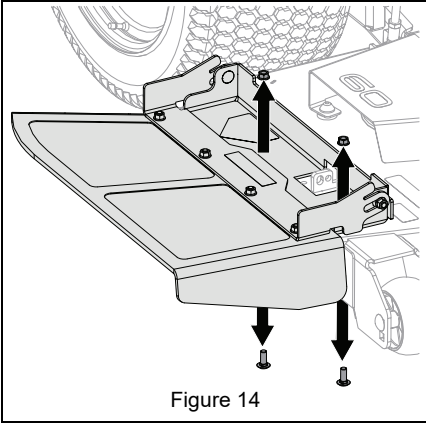

Figure 14
1. Remove and retain two round head square neck bolts and two center locking flange nuts securing chute to deck. Remove discharge chute and retain for operation without bagger. See Figure 14.